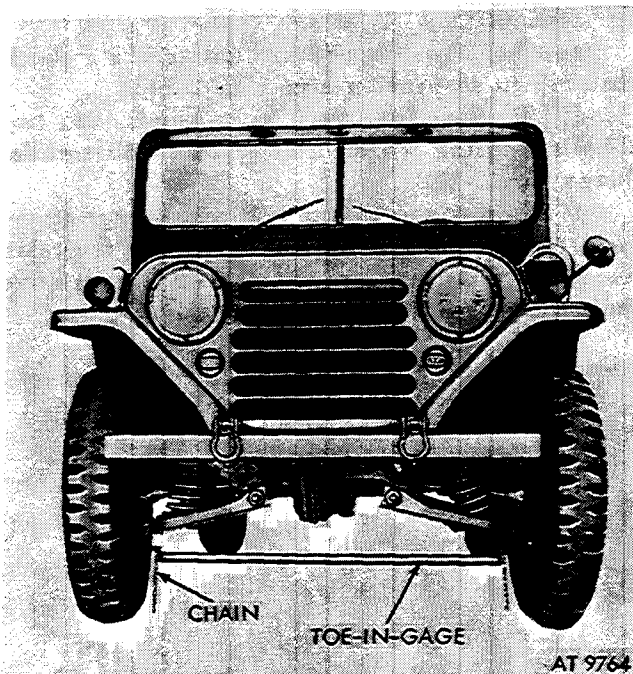

Figure 2-342. Toe-in adjustment with gage behind vertical centerline of front wheels.
e. Push vehicle forward until gage is behind the vertical centerline of the wheels (fig. 2-342) and the chains are just touching the floor. Read gage. Reading should be 1 / 32 to 5 / 32 inch. Remove gage and turn both adjusting sleeves equally and repeat toe-in check until correct adjustment is obtained. Torque clamps to 12-15 lb-ft. and report to support maintenance as soon as possible for complete front end wheel alinement.